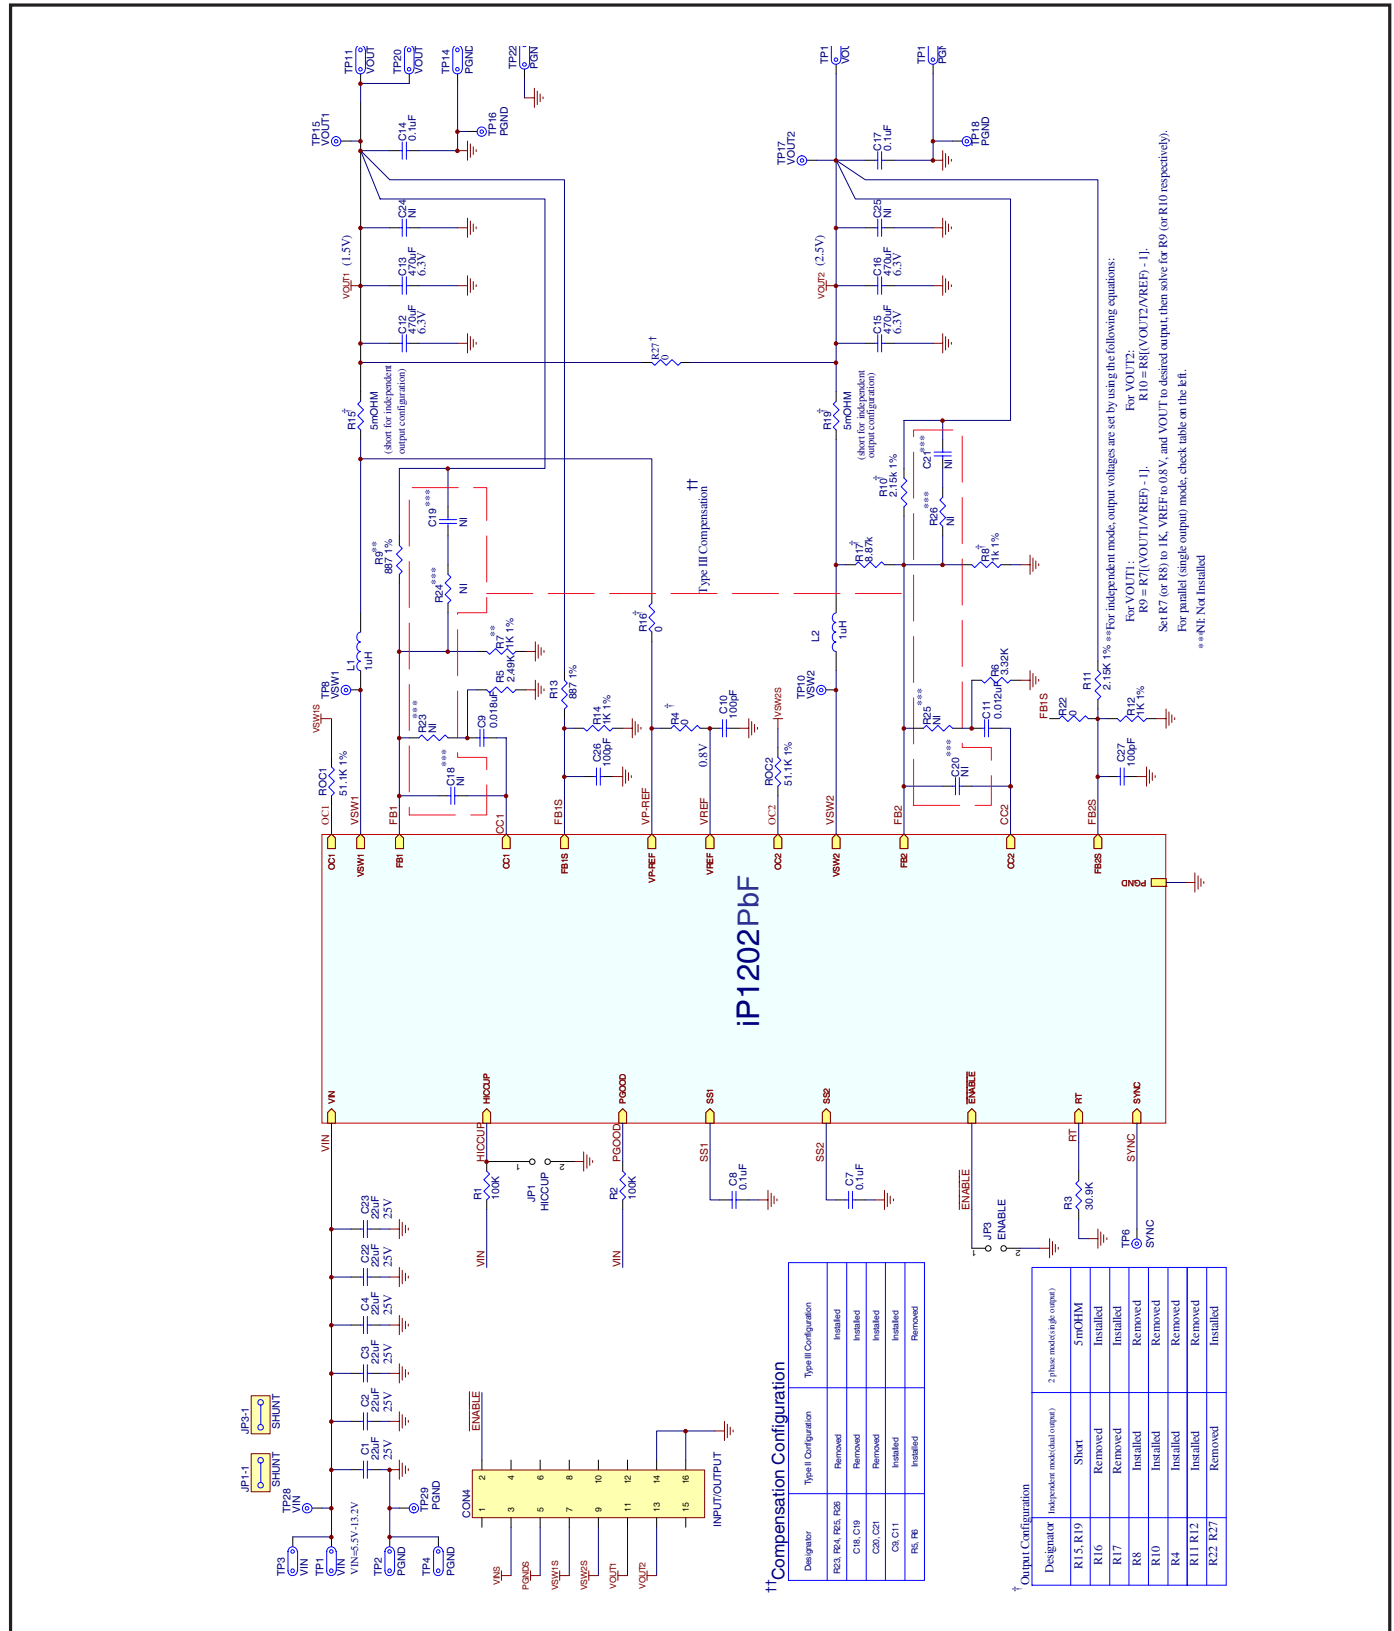

Fig. 32: Reference Design Schematic
1. Follow the layout scheme presented in Fig. 32. Make sure that the output inductors L1 and L2 are placed as close to iP1202PbF as possible to prevent noise propagation that can be caused by switching of power at the switching node Vsw, to sensitive circuits.